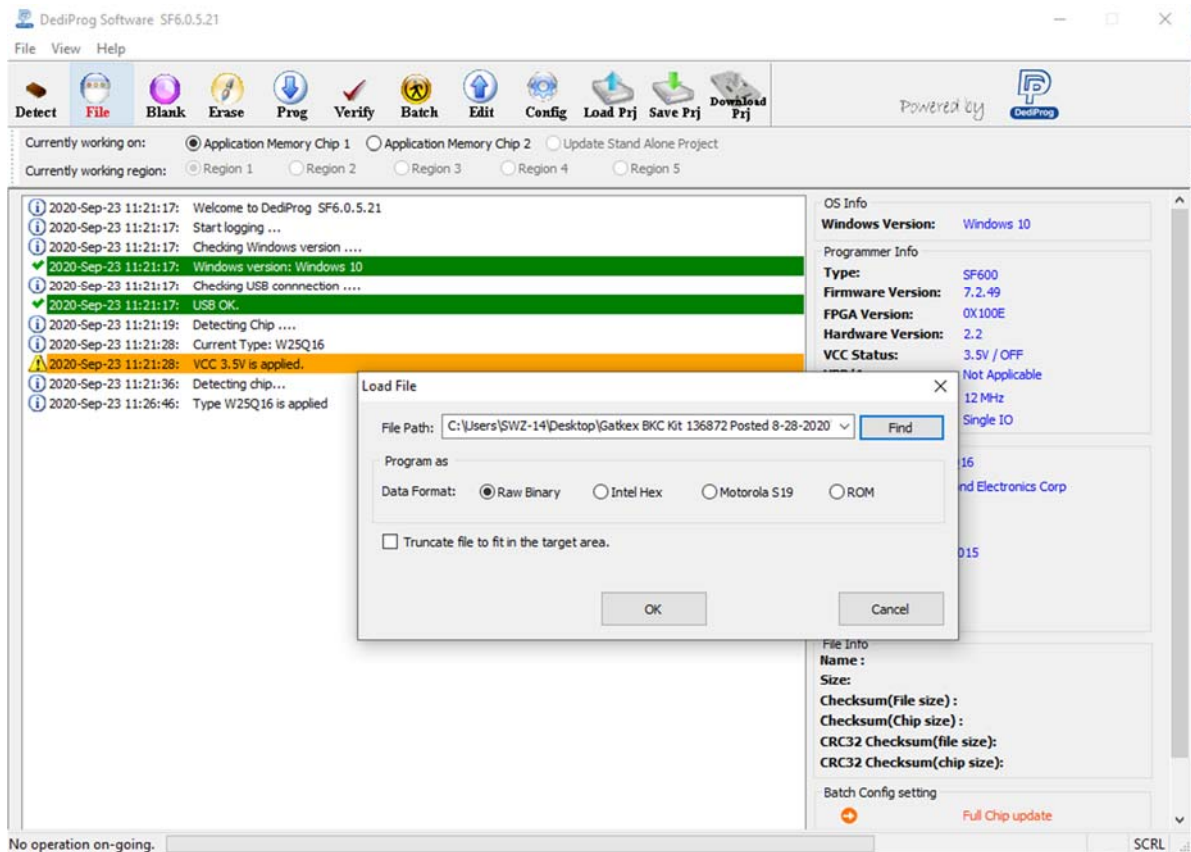

Figure 23: Load Intel USB4 Evaluation Dock bin file
- Step 3: File → load Fresco USB Hub FW from BKC file bin file (See Figure 23)